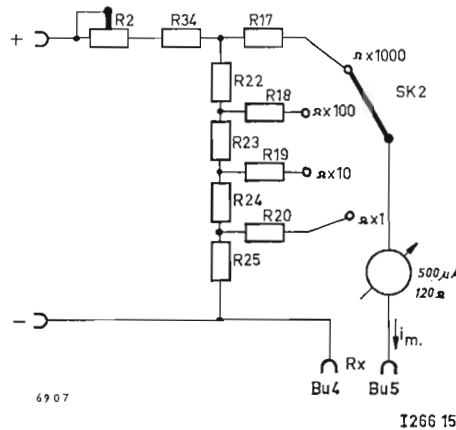

Fig. 6. Measuring resistances
E. Measuring resistances (Fig. 6)